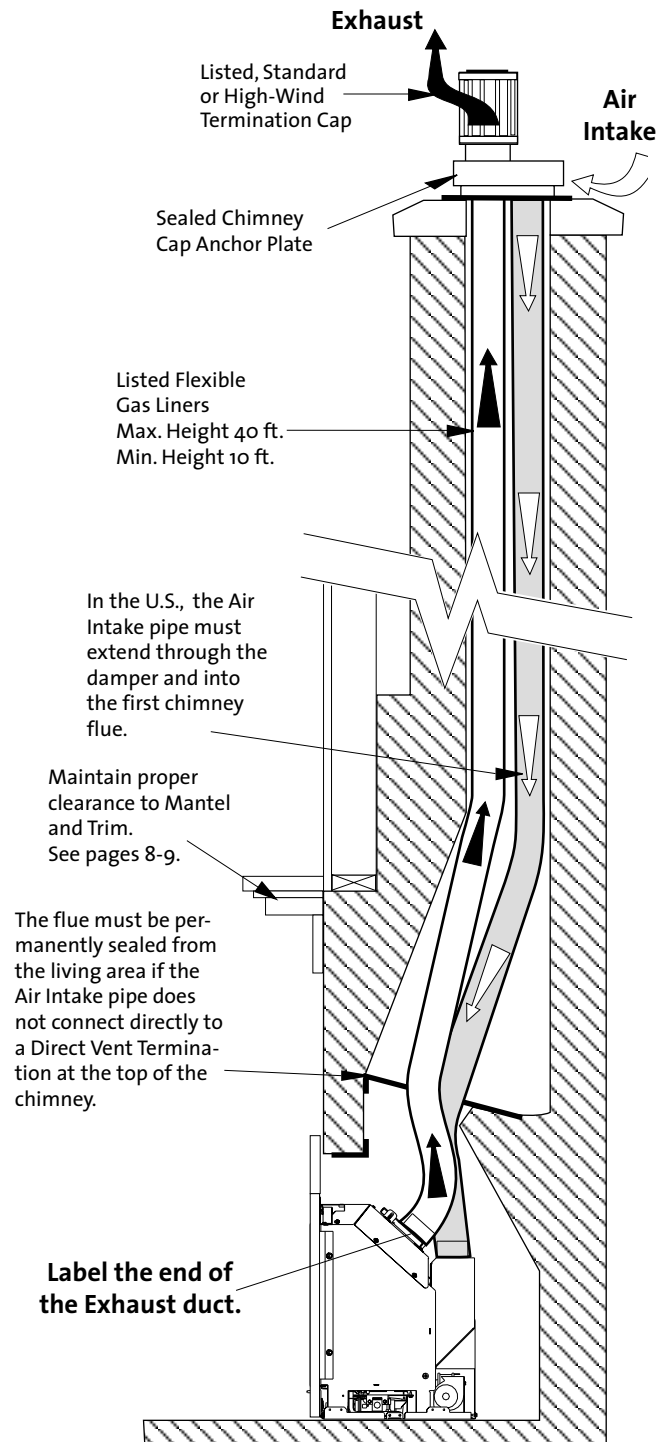

Figure 8. Masonry Fireplace Venting Configuration.
- The minimum height of termination cap from the top of the unit shall be no less than 10', and the maximum height shall be no more than 40'. See figures 8 and 9.
One duct is attached to the exhaust port on the back of the unit and will carry the exhaust gases to the outside of the house. This exhaust liner must run the full length of the chimney and be directly connected to the chimney termination cap. See figure 8.
The other 3 inch liner will be attached to the air intake port on the back of the unit and will provide fresh air for combustion to the unit. This liner must extend a minimum of 6 feet off the back of the unit and extend through the damper area of the fireplace and into the tile liner of the chimney. This liner can also extend the full length of the chimney and connect to the termination cap. See figures 8 and 9.
If the intake flex does not extend the full length of the chimney and connect to the unit and the termination cap - A METAL BLOCK OFF PLATE MUST BE CONSTRUCTED AND INSTALLED ABOVE THE UNIT BELOW THE END OF THE INTAKE DUCT (normally at the damper area). See figure 8.